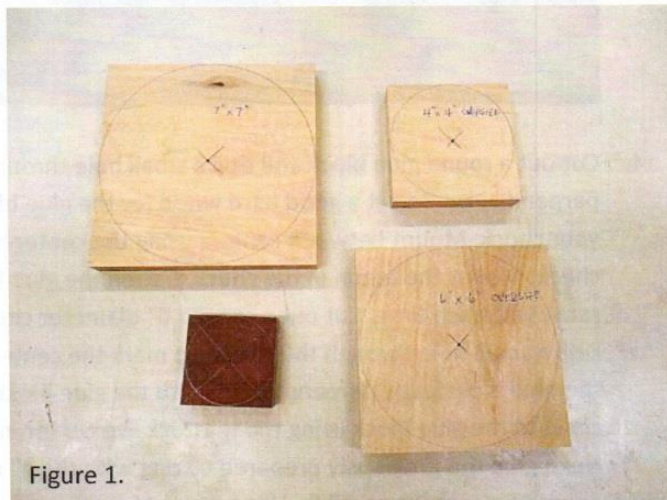

Figure 1.
1. There are five main pieces required – three from $\frac{3}{4}$ " plywood and two from $\frac{3}{4}$ " thick hardwood (Figure 1).